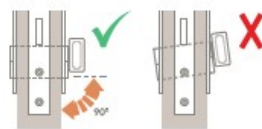

Figure 4 - Inserting the cylinder
4. Insert the cylinder into the lock case making sure it is horizontal and at 90° to the door face before fully tightening the escutcheon/backplate fixings (Figure 4).